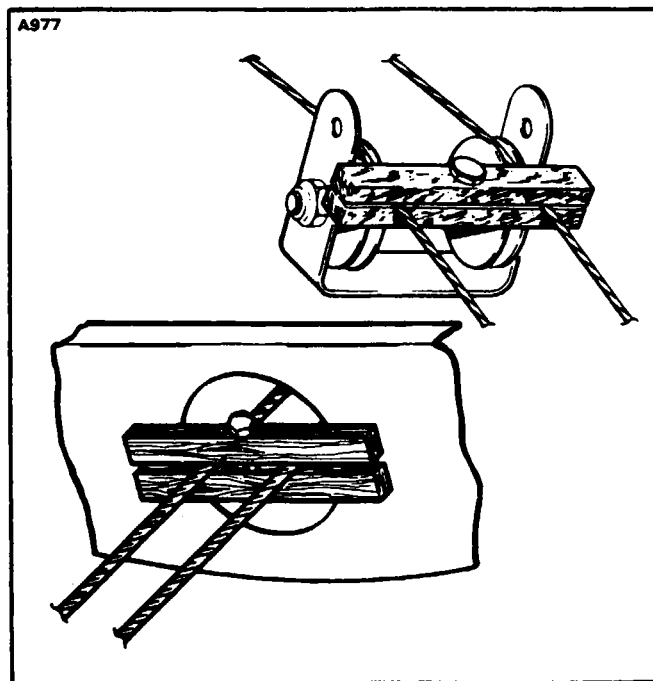

Figure 5-7. Methods of Securing Trim Cables
b. If the aft trim cable (16) is not to be removed, block the cables at the pulleys (12) in the tail cone to prevent them from unwrapping from the trim drum. (Refer to Figure 5-7.)
c. Loosen the cables if the trim control wheel is to be removed or disconnected if the cables are also to be removed. Do this at the trim cable turnbuckles (17) in the aft section of the fuselage.
- b. Block the trim cables (19) at the first set of pulleys (5) forward of the cable turnbuckles (17) in the aft section of the fuselage by a method shown in Figure 5-7.
- d. Block the cable (16) at the trim barrel (24) to prevent them from unwrapping at the barrel.
- e. Disconnect the cables (16 and 19) at the turnbuckles (17).
- f. Remove the cable guard pins (22) at the trim screw and also at the pulleys (12) located below the trim mechanism at station 292.34.
- g. Remove the bolt assembly (23) which connects the forward end of the trim screw with the link assembly (29).
- h. Unscrew the screw (27) from the trim barrel (24).
- i. Remove the four machine screws securing the two parts of the bracket assembly (26) to the mounting bracket (38).
- j. Separate the two parts of the bracket assembly (26) and remove the trim barrel and cable. Note the amount and placement of washers at each end of the barrel to simplify reassembly.